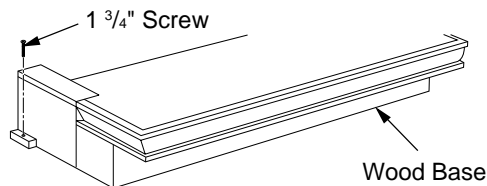

Figure 14 - Attaching Wood Base to Floor
- Attach wood base to floor with two 1 3/4" black screws provided (see Figure 14). If the floor is concrete use anchor method (see *Attaching Wood Base to Solid Floor*, page 14).